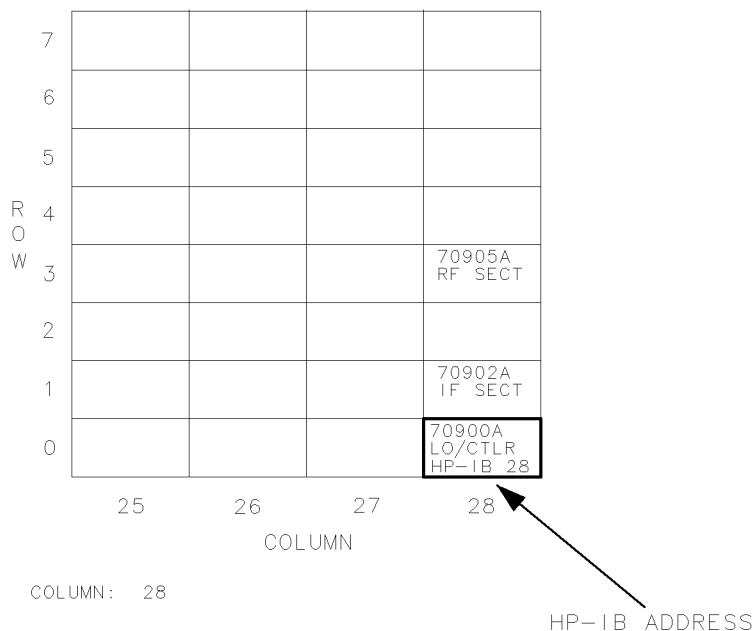
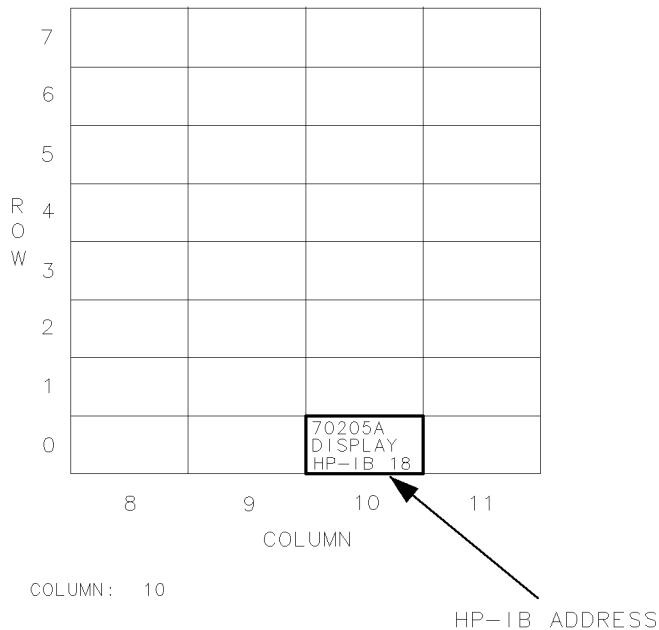

Figure 1-1. Spectrum-Analyzer HP-IB Address as shown on Address Map
Figure 1-2. View Display Module on Address Map
To view the map, press **[DISPLAY]**, then press **Address Map**. Turn the front panel knob until the HP 70900B local oscillator source appears in the **address map** matrix. The HP-IB address is indicated next to the HP 70900B local oscillator source number. (The HP 70900B local oscillator source contains the firmware that controls spectrum analyzer operation and communicates with HP-IB.) The HP 70900B local oscillator source must be in row 0 for HP-IB access. (See Figure 1-1.) If the HP 70900B local oscillator source is not in row zero, set the HP-MSIB module address switch to row 0. (See Figure 1-3 and following text or refer to *HP 7000 Modular Spectrum Analyzer Installation and Verification Manual*)
4. Check system configuration on the address map. For normal spectrum analyzer operation, the local oscillator and display modules are positioned in the bottom row, row 0, of the **address map** with the other modules stacked in a column above or above and to the right of the HP 70900B local oscillator source. (See Figure 1-1 and Figure 1-2.) The column may contain empty spaces between modules. If your system is not configured properly, for installation instruction, refer to the *HP 70000 Modular Spectrum Analyzer Installation and Verification Manual*.
The current HP-IB address is shown inside the HP 70900B local oscillator source box on the address map (Figure 1-1). Changing the HP-IB address with the front panel controls does not affect the HP-MSIB address of the module.